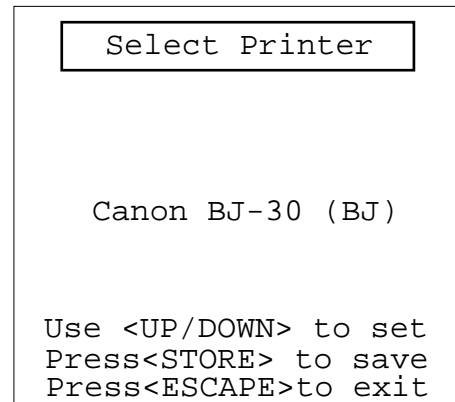

Figure 3.2-12 Select Printer Screen
Move the cursor with \blacktriangle \blacktriangledown To change the selected option press <STORE>. When pressing <STORE> at Select Printer the screen is cleared and the Select Printer screen will display. See Figure 3.2-12. When pressing <STORE> at items 2 through 4 the displayed options are toggled. See the following sections for more information. Press <ESCAPE> when done to return to the Data Reduction menu.